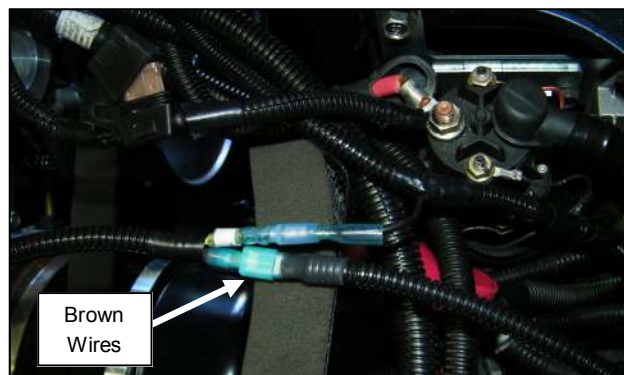

Fig. 4.8 (Locate RPM signal wire harness)
- 4.8** Locate the RPM signal wire harness (9SV-WH-00075) (located in the alternator kit). The harness is a 2-foot long brown wire with a male bullet and female push-on terminals. Connect this to the end of the brown wire on the controller harness (9SV-WH-00089). See Figure 4.8.